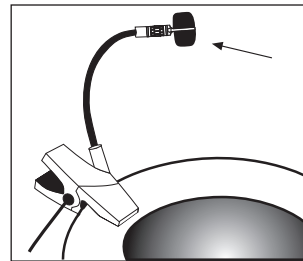

Figure 3
3. Slip windscreen on microphone head to prevent wind noise. (Figure 3)